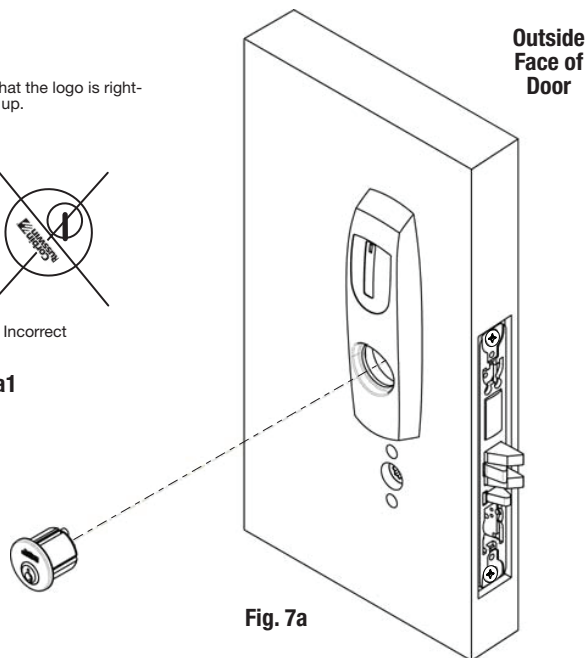

Fig. 7a
- a. Thread cylinder into lock body (Fig. 7a).